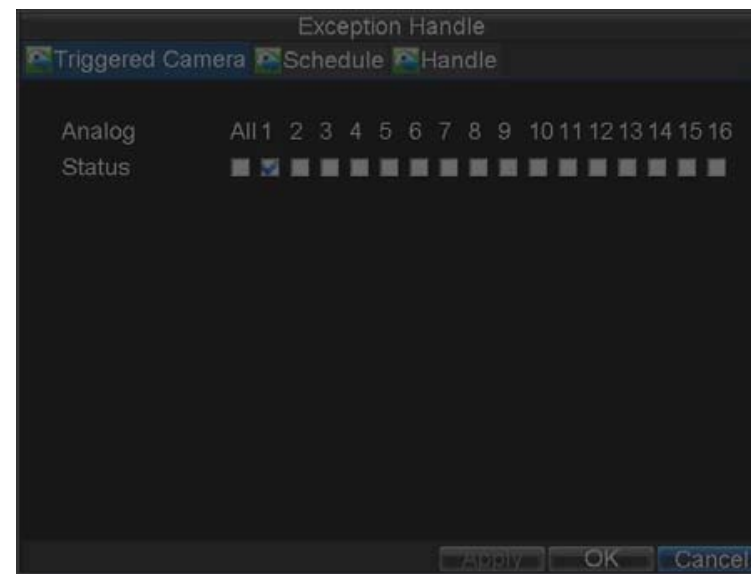

Figure 9.10. Triggered Cameras Menu
- 6) Select cameras to trigger for recording when alarm occurs by checking the checkboxes under the desired cameras, as shown in Figure 9.10.